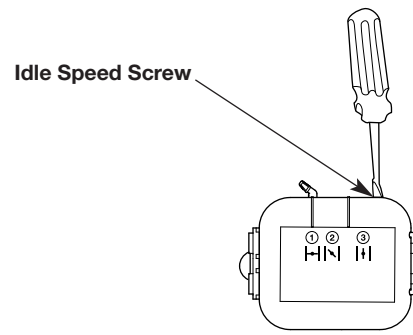

Fig. 11
- If the engine stops, use a small Phillips screwdriver to turn the idle speed screw clockwise, 1/8 of a turn at a time (as needed) until the engine idles smoothly (Fig. 11).
- If the engine idles too quickly, turn the idle speed screw counterclockwise, 1/8 of a turn at a time (as needed) to reduce the idle speed (Fig. 11).